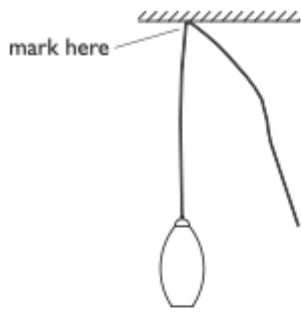

Figure 1
1. Determine the desired cord length for each pendant. Measure the desired cord length from your ceiling by using a tape measure, or hold the pendant cord to ceiling and adjust to desired length. Use tape to mark a spot on cord about 1" below where it will meet the ceiling. (Figure 1) *Note: When choosing the proper length of each pendant cord, we recommend a minimum of 22" between tables or eating surfaces and the bottom of the pendants.*